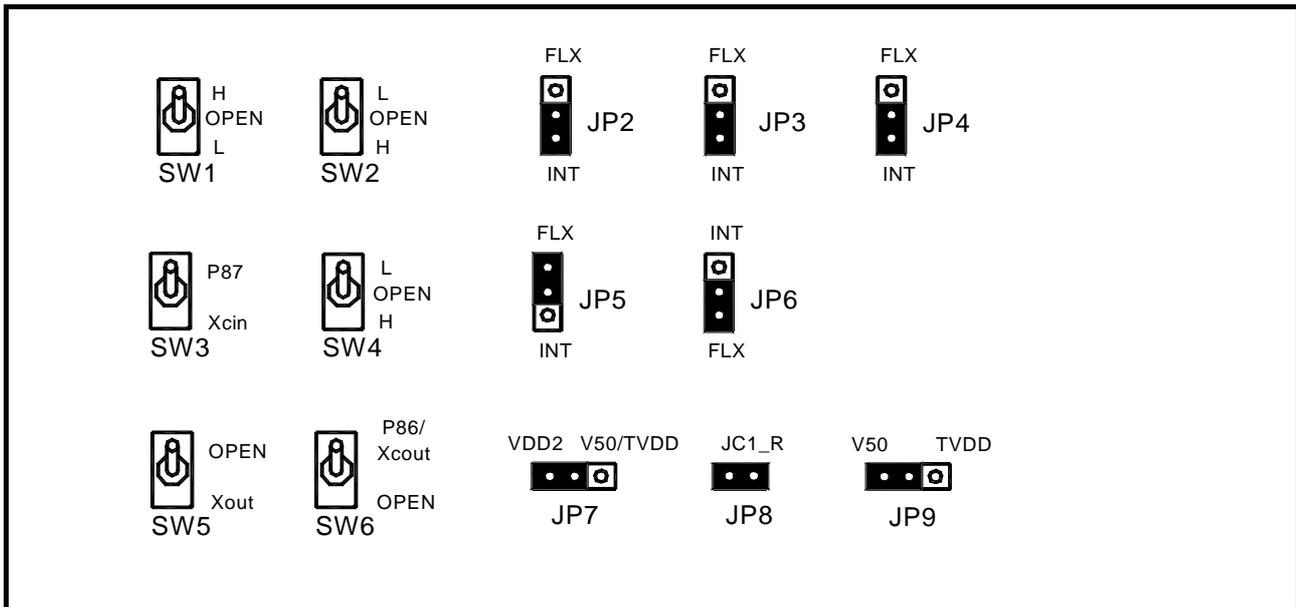

Figure 3.3 Switch settings for the self-check (factory-settings)
- (1) If the user system is connected, disconnect it.
- (2) Set the switches in the emulation pod to the factory settings as shown in Figure 3.3.
- (3) Within 2 seconds of activating power to the emulator, press the system reset switch on the emulator front panel to switch the emulator to maintenance mode.
- (4) Check the SAFE LED starts blinking and then press the system reset switch again.
- (5) The self-check will start. If the normal result is displayed in about 40 seconds, the self-check has terminated normally.
- Whether the switch settings of this product are the factory-settings (Figure 3.3)